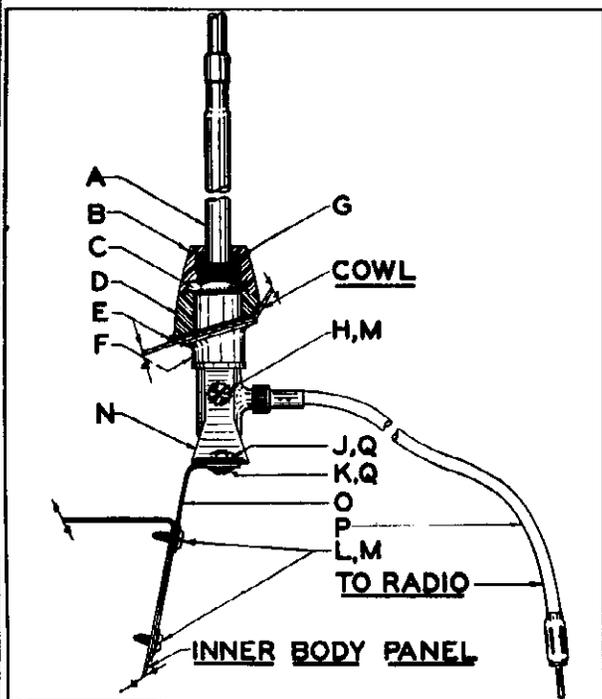

Figure 56
3. Pass antenna mast from inside cab thru 13/16" hole in cowl and attach bracket "O" to bracket "N" with bolt and nut "J" and "Q," fasten bracket "O" to side panel with self-tapping screws "L" and "M." DO NOT TIGHTEN. (See Figure 56.)
4. Place rubber pad "E," spacer "D" and nut "C" over antenna mast and tighten nut "C," make sure seal "G" is placed, then slip top insulator "B" over antenna and tighten. (See Figure 56.)